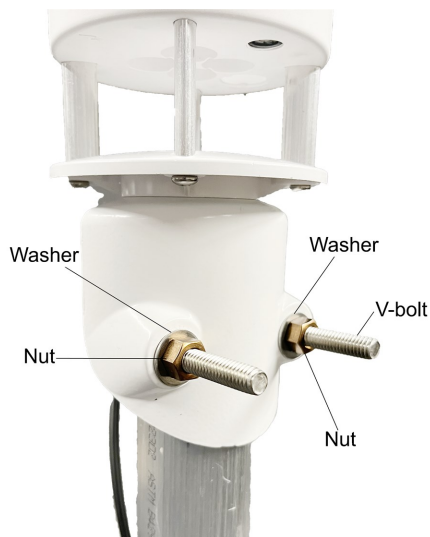

Figure 6-2. ClimaVue 40 mounted to a pole with V-bolt and nuts
2. Loosely mount the ClimaVue 40 to the tripod mast, CM300-series pole, or mounting tube by using the V-bolt, washers, and nuts (Figure 6-2 [p. 11]).